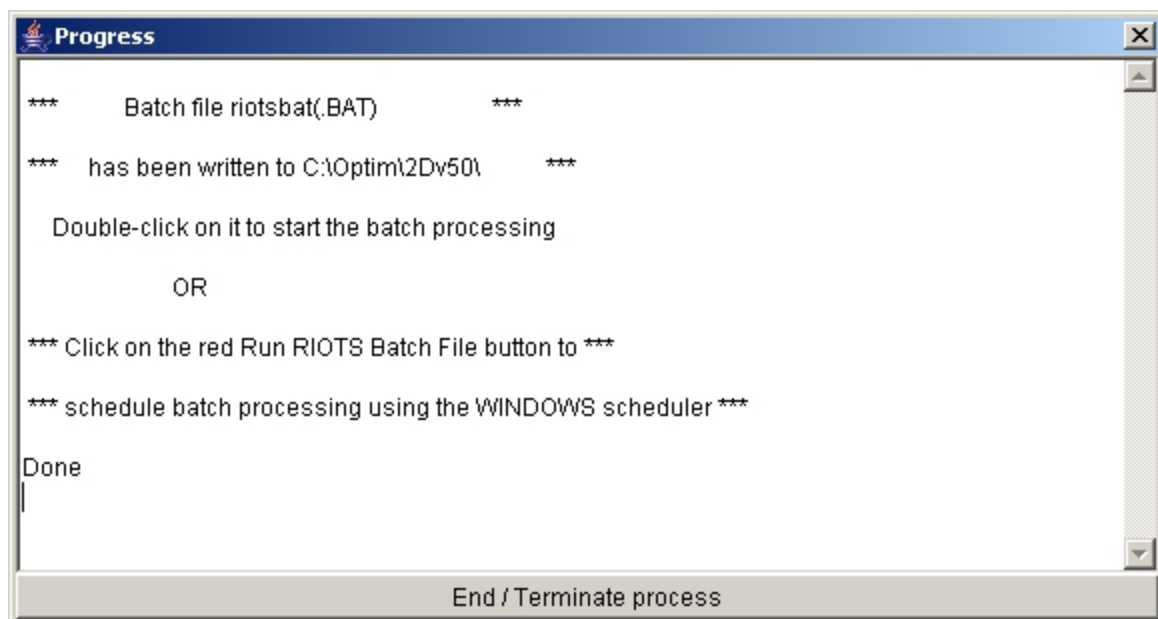

Figure 7: Progress window showing creation of batch file. Now you are ready to start batch processing.
12. Click ‘Ok’. The window shown in Figure 7, with the message riotsbat file written will open up. Now you are ready to start batch processing.